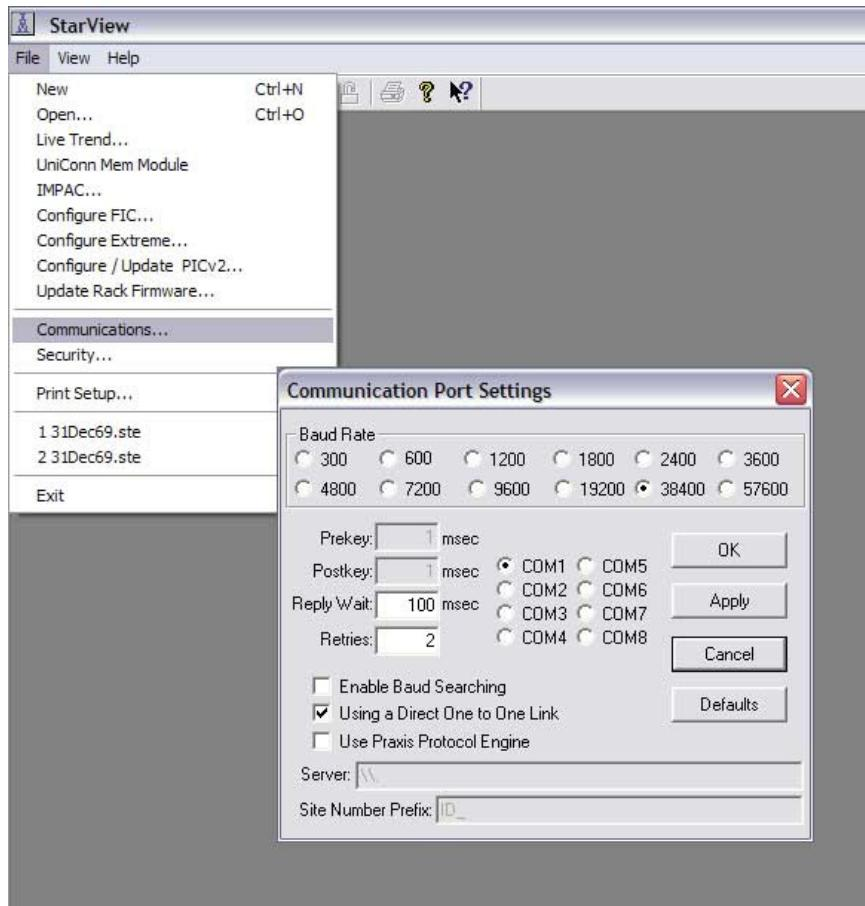

Figure 6-72: StarView FIC Communication Parameters
2. Configure the communications port by selecting **File** menu **Communications** command as shown in Figure 6-72.